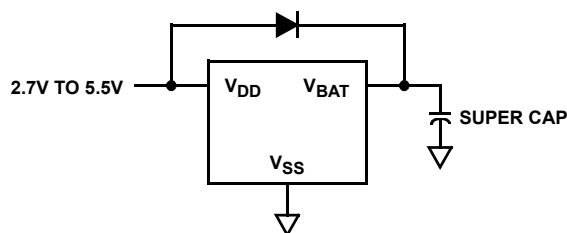

FIGURE 28. SUPER CAPACITOR CHARGING CIRCUIT
- **Mode C** - In this mode the selection bits indicate a low V_{DD} switchover combined with no communications in battery backup. Operation is actually identical to Mode A with I²C communications down to $V_{DD} = V_{RESET}$, then no communications (see Figure 28).